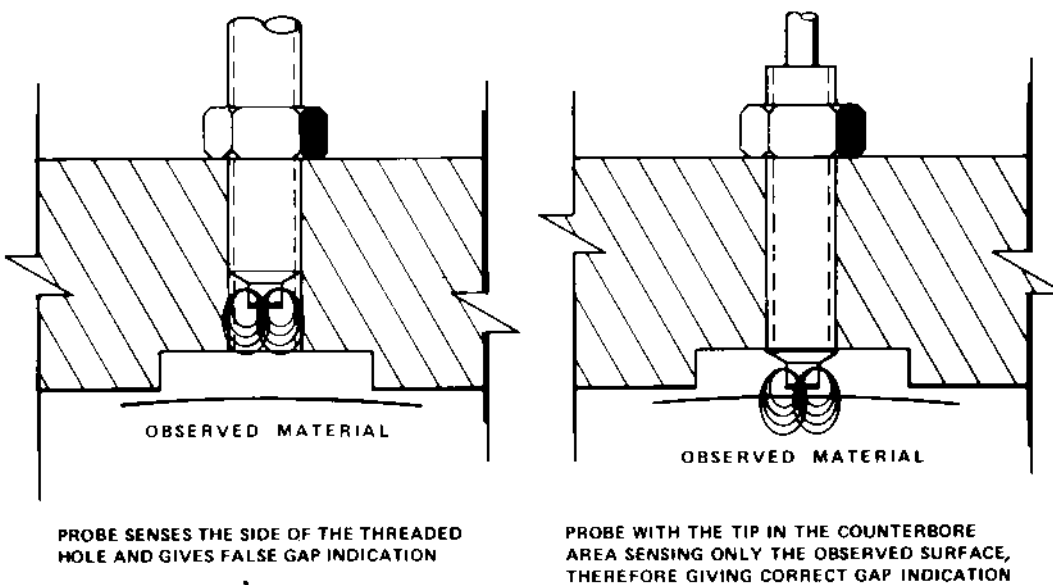

Figure 2-3. Gap Indications During Mounting
- c. The probe can also be gapped electrically by connecting the probe cable to the Proximitor (see CAUTION below). Apply the proper input voltage (-18 Vdc or -24 Vdc) to the Proximitor. Connect a digital multimeter to the Proximitor output. Thread the probe into the mounting, and observe the transducer output voltage. As the probe is threaded, the transducer output voltage remains low or gives a false reading because it is sensing the surrounding mounting material. See Figure 2-3. As the probe tip extends through the mounting, the transducer output voltage will increase to its maximum output and then decrease as it approaches the observed surface. By cross-referencing this voltage with the probe calibration curve in Appendix C, the proper gap can be set.